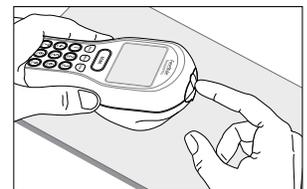

Figure 4
3. Insert strip port module firmly into place. (Fig. 4)